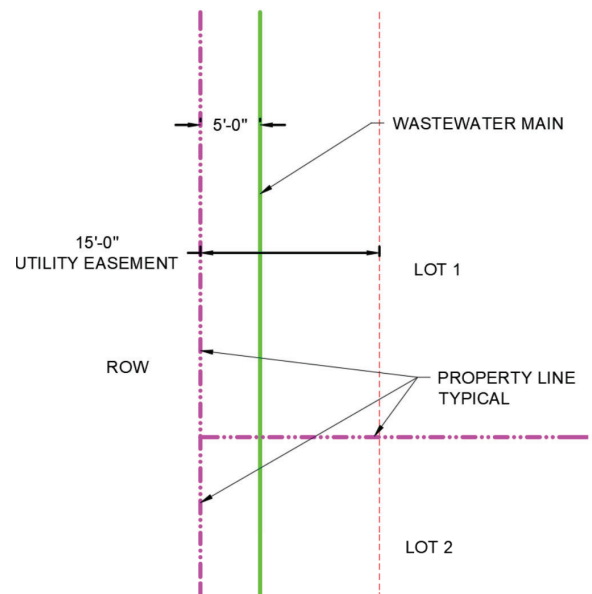

Figure 17 - Sewer Side Lots
- 4.5. When a public wastewater main is adjacent to ROW, the public wastewater main is required to be located a minimum of five (5) feet from the property line in a minimum twenty (20) feet easement or as per Table 2. However, five (5) feet of the total easement can be included in the ROW. See Figure 17.